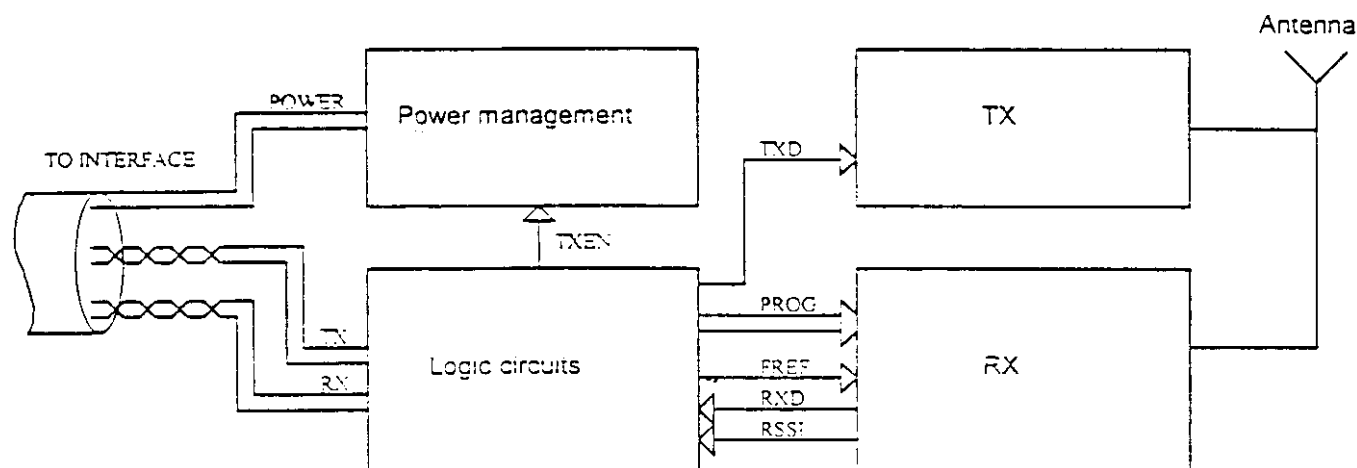

FIG.3
Referring to fig. 3, the transmission section (TX), is supplied in function of the TXEN enabling signal. When TXEN=1 the transmission section is powered on. As previously described, it is an AM transmitter centered around the frequency of 433.92MHz for the European version and of 913.5MHz for the American one. The oscillator of this transmitter uses a SAW resonator.